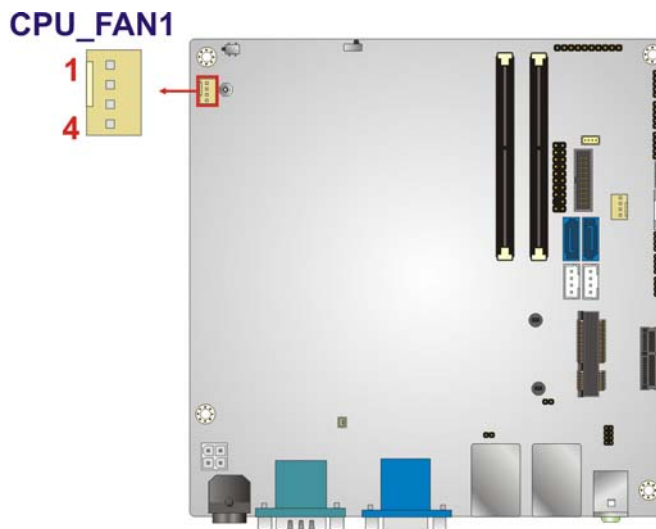

Figure 3-9: CPU Fan Connector Locations
- CN Location:** See **Figure 3-9**